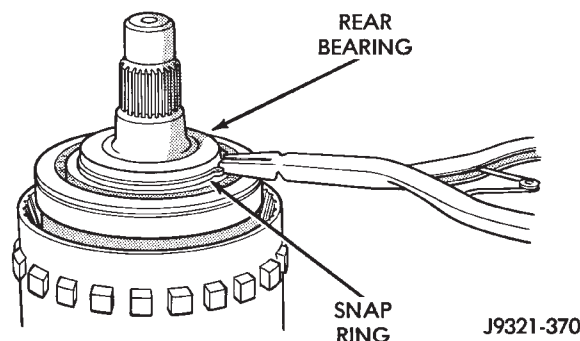

Fig. 280 Rear Bearing And Snap Ring Installation
(7) Install rear bearing and snap ring on output shaft (Fig. 280). Be sure locating ring groove in bearing is toward rear.